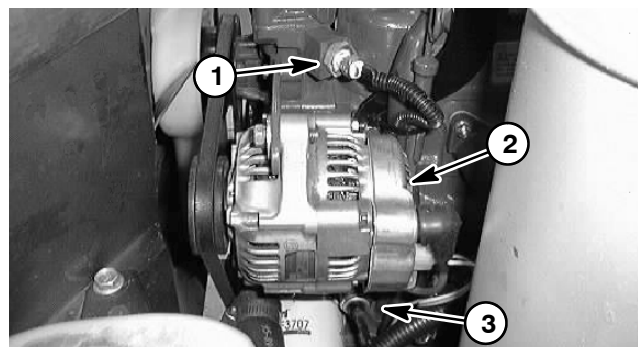

Figure 11
D. High temperature shutdown switch, alternator and oil pressure switch (Fig. 11).
- E. High temperature shutdown switch, alternator and oil pressure switch (Fig. 11).